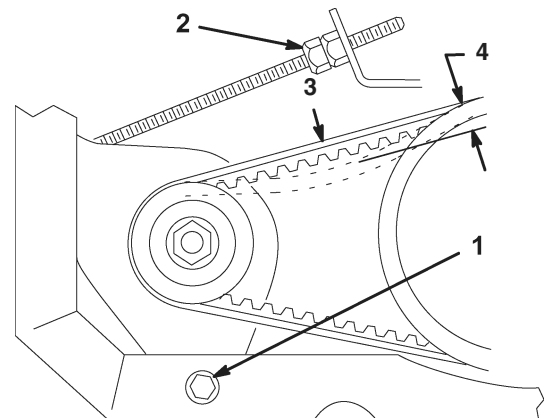

Figure 26
2. Loosen the starter generator pivot bolt (Fig. 26).
3. Adjust the jam nut on the starter rod (Fig. 26) until the belt flexes 6mm (1/4 in.) with 14 N•m (10 lbs..) of force.
4. Tighten the starter generator pivot bolt (Fig. 26).